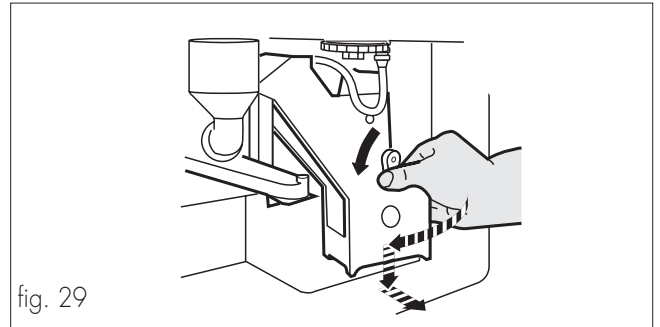

fig. 29
- Move the hooking lever in position 3 and extract the coffee unit by slightly rotating it on the connecting coupling with the milk mixer (fig. 29). Wash it completely in lukewarm water, dry it and reinsert it in its seat holding the lever in position 3.